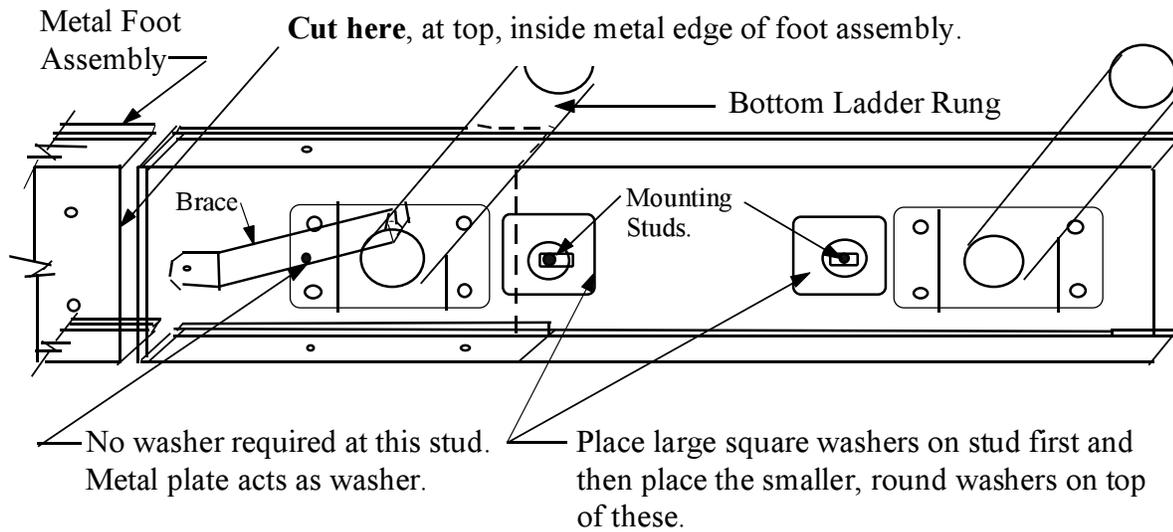
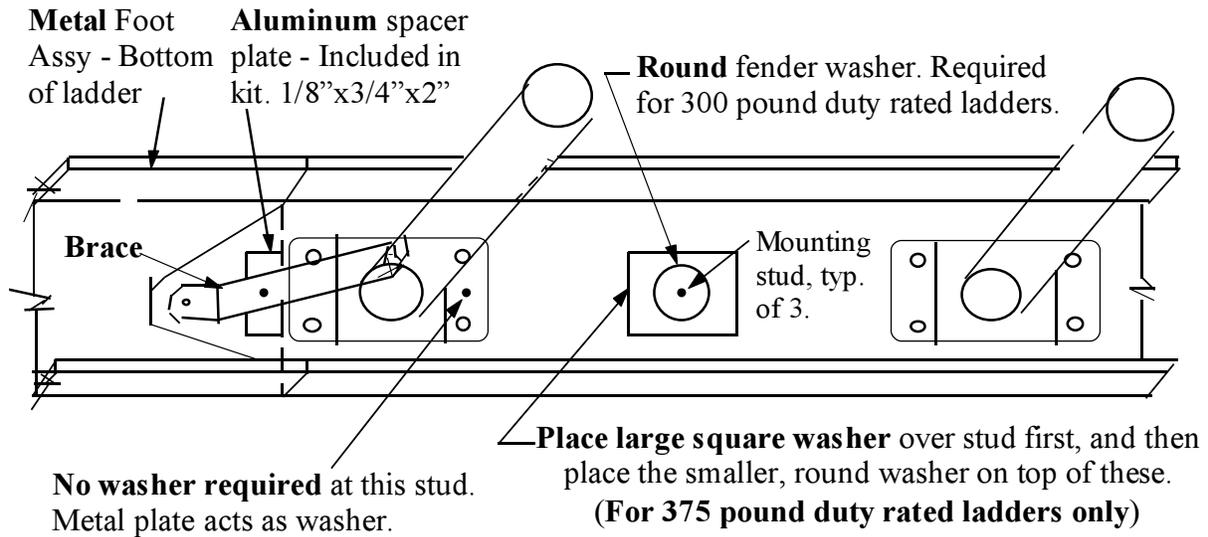

Figure 3-2A
Figure 3-4A
1. Remove existing stock extension ladder foot. Removal of the metal foot assembly is completely optional, but the small angle brace under first rung should remain on ladder. See **Fig 3-2A** for cut line on Werner 7100 series and similar ladders if removal is preferred. Removal of the metal foot assembly on Werner ladders and similar will reduce the overall weight of the ladder and help utilize the full 10” stroke of the Levelok Levelers.
over the 2" square washer (see **Figure 3-2A** and **3-4A**). The mounting stud penetrating the rung plate does not require a washer. The bottom mounting stud on the Louisville ladder requires a thin aluminum spacer plate as a washer (see **Figure 3-4A**). Tighten all 3 nylon insert nuts with a 1/2" wrench or socket, to the recommended torque of 9 foot-pounds. **YOUR FIBERGLASS EXTENSION LADDER / LEVELOK LEVELING SYSTEM IS NOW READY FOR USE.**